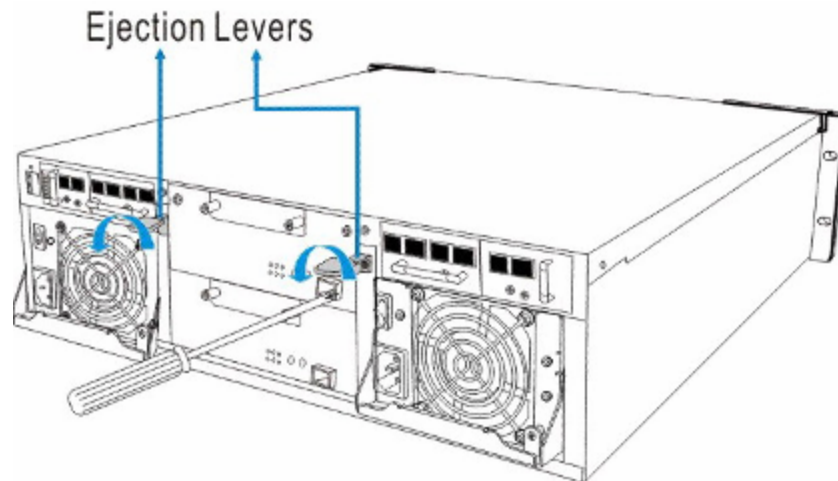

Figure 5-1: Removing Screws from underneath Ejection Levers
Step 2. Remove the retention screws that secure the controller ejection levers to the chassis. (See *Figure 5-1*)